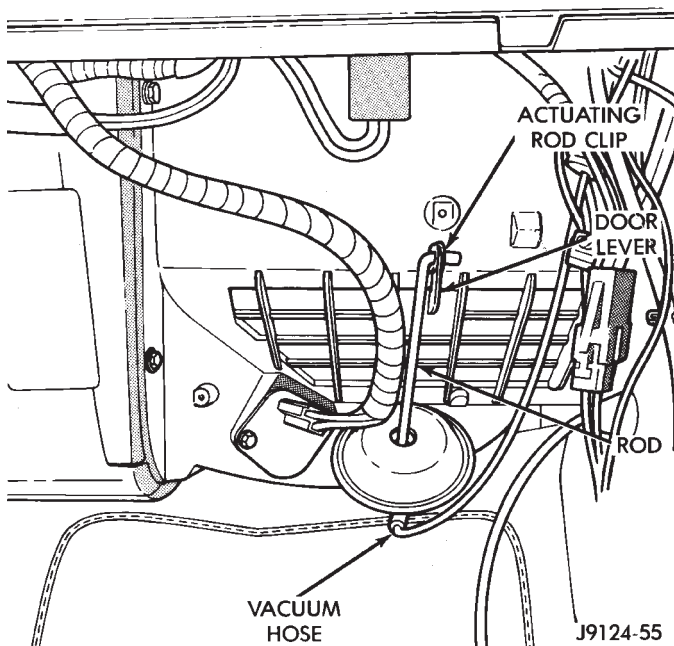

Fig. 15 Vacuum Door Motor
- (2) Disconnect the vacuum hose (Fig. 15).